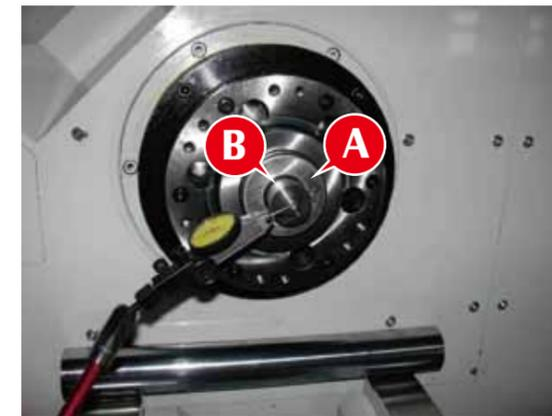

Fig.6
6) Insert a transfer sleeve (A in Fig. 6) and a center (B in Fig. 6) into the spindle bore.
7) Apply the stylus of the indicator to the center taper (see Fig. 6) and rotate the spindle in manual way. Measure the run-out accuracy and ensure the accuracy to be within  $0.015\text{mm}$ .